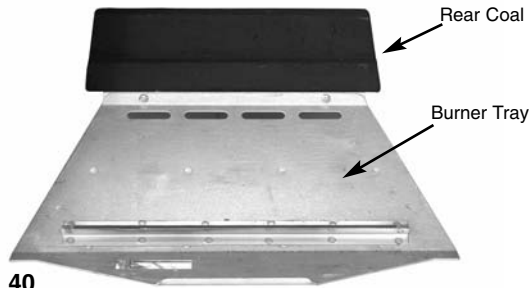

Fig. 40
1. Place the rear coal on the rear coal retainer ledge in a central position, ensuring the step portion is facing the front (Fig. 40).